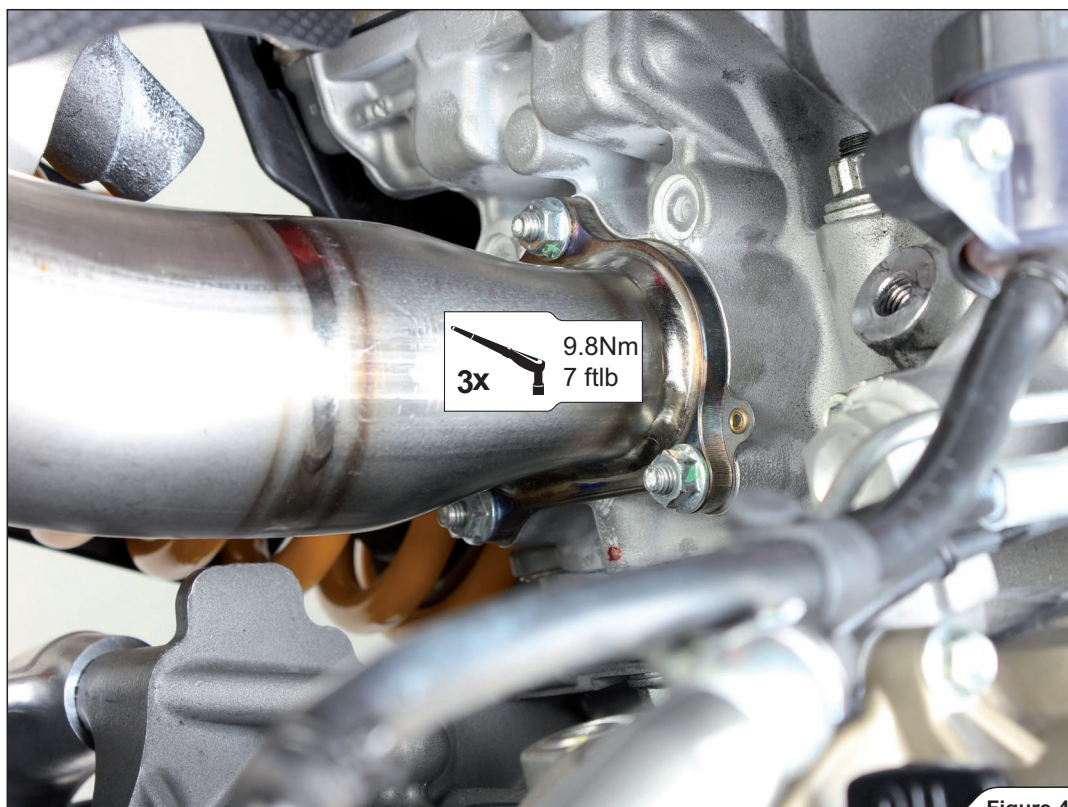

Figure 42
13. Tighten both headers to the specified torque (Figure 42, 43).